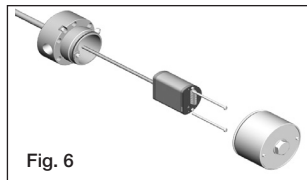

Fig. 6
- Step 5: Carefully slide electronics module/waveguide assembly out of the pressure housing. Avoid bending the waveguide assembly. (Fig. 6)